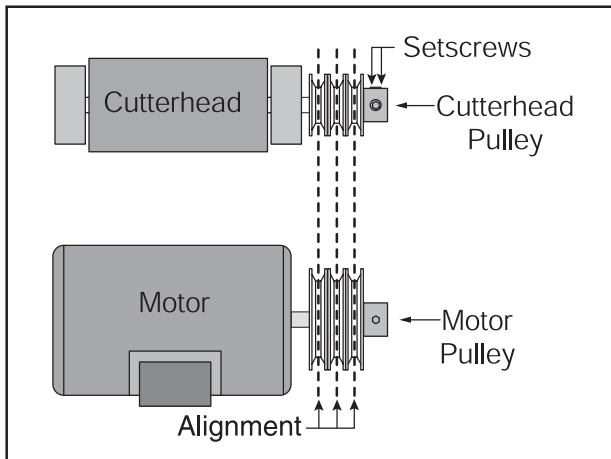

Figure 41. The pulleys should be aligned so the V-belts are straight up and down.
1. Move the fence forward and visually check the alignment of the two pulleys (**Figure 41**) to make sure that they are aligned.